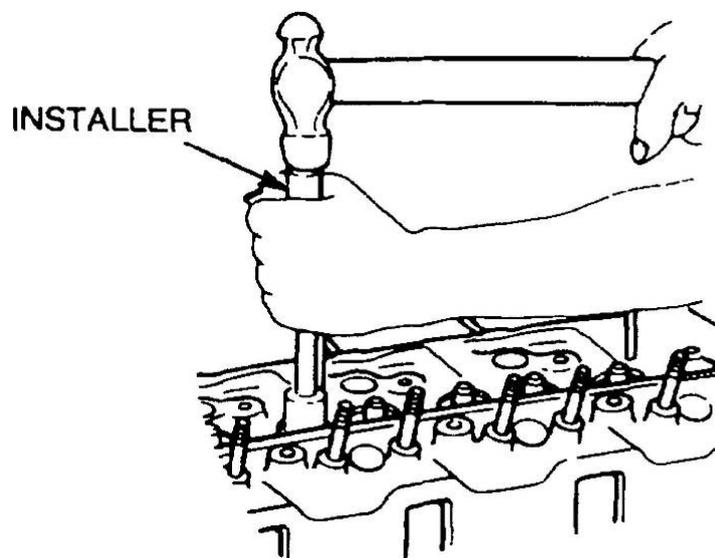

Figure 9 Installing the Valve Stem Oil Seal
- o. Position new valve stem seals over the top of each valve guide. Using a hammer and special tool 1-8522-1005-0, install each seal (Figure 9).